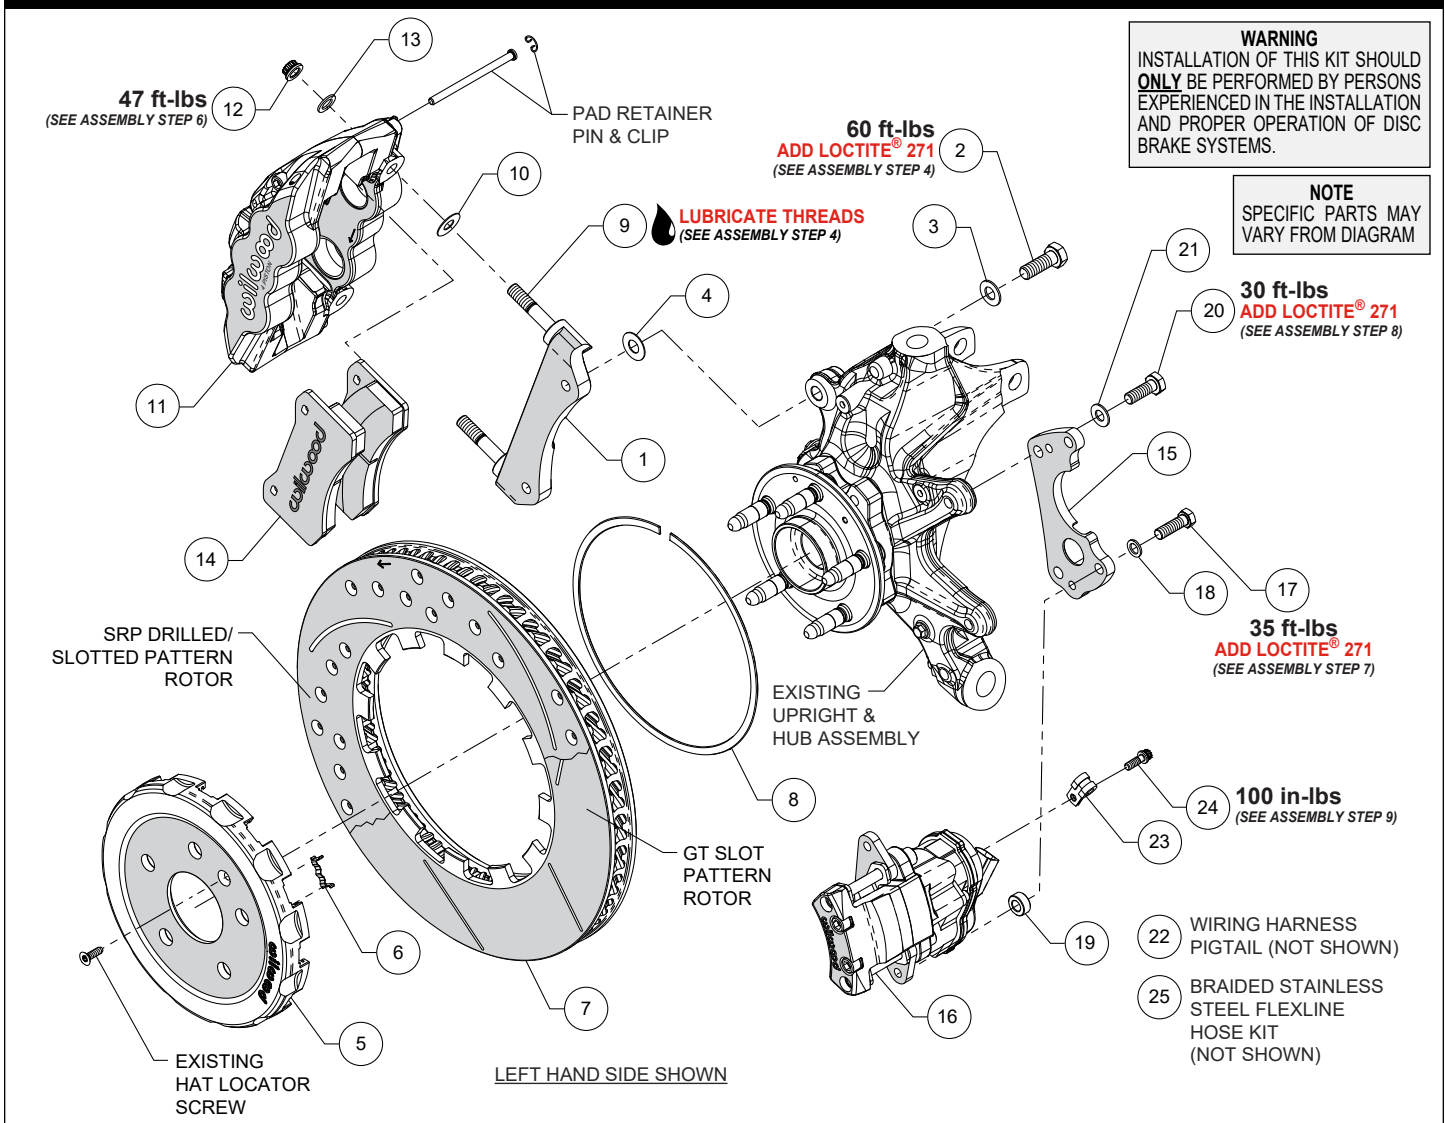

Figure 1. Typical Installation Configuration
NOTE: Numbers in parenthesis refer to the parts list and Figure 1 on the preceding pages.
STEP 1 The caliper mount bracket (1) should initially be installed with clean, dry threads on the mounting bolts. Orient the bracket, as shown in Figure 1 and Photo 1, and install using bolts (2) and washers (3). Initially place one .033" thick shim (4) on each bolt between the bracket and upright, Figure 1. Temporarily tighten the mounting bolts. **NOTE:** *The bracket must fit squarely against the mount bosses on the upright.* Inspect for interference from casting irregularities, machining ridges, burrs, etc. Later, after the caliper alignment has been checked, the mount bolts will be secured using red *Loctite*® 271.
STEP 2 Insert the dynamic mount wear clips (6) into the slots in the hat (5), Photo 2 and 3. Orient the rotor (7) as shown in Figure 1 and Photo 4, with the flush side of mount lugs facing the hat. Secure the rotor to the hat using the snap ring (8) by simultaneously pushing down on the rotor and installing the ring into the groove in the hat, as shown in Photo 5. Carefully inspect snap ring to ensure complete engagement in the groove.
STEP 3 Slide the hat/rotor assembly onto the axle hub, Photo 6. **NOTE:** *The hat must fit flush against the axle hub flange or excessive rotor run out may result.* Install the hat locator screw (OEM), as shown in Figure 1, to keep the hat/rotor assembly in place while continuing with the installation.
STEP 4 **NOTE:** *This kit contains distinct right and left hand calipers that must be mounted in a specific direction, as described below.* Lubricate the caliper mounting studs (9) with lightweight oil. Initially place one .030" thick shim (10) on each stud between the caliper and the bracket, as shown in Figure 1 and Photo 7. Mount the caliper (11) onto the bracket (1) using lock nuts (12)
and washers (13), Figure 1. Temporarily tighten the lock nuts. Ensure that the caliper is mounted so the largest pistons are at the rotor exit end of the caliper, in relation to the forward direction of the rotor. View the rotor through the top opening of the caliper. The rotor should be centered in the caliper, Photo 8. If not, adjust by adding or subtracting shims (4) between the bracket and the upright. Always use the same amount of shims on each of the two mounting bolts. Once the caliper alignment is correct, remove the bracket mounting bolts (2) one at a time, apply red *Loctite*® 271 to the threads, and torque to value shown in Figure 1.
STEP 5 Remove the caliper (11) from the bracket (1), then remove the clips and pad retaining pins from the caliper. Insert the brake pads (14) into the caliper from the bottom side, with the friction material facing the rotor, as shown in Photo 9. Secure the brake
pads in place with the pad retaining pins and clips, Figure 1 and Photo 10.
STEP 6 Reinstall the caliper onto the caliper mounting bracket and temporarily tighten the lock nuts (12). Check that the top of the brake pad is flush with the outside diameter of the rotor, Photo 11. If not, adjust by adding or subtracting shims (10) between the caliper and the bracket. After the caliper pad height is set, torque the caliper lock nuts (12) to value shown in Figure 1.
STEP 7 Attach EPB caliper mounting bracket (15) to EPB caliper (16) using bolts (17), washers (18), and spacers (19) as shown in Figure 1 and Photo 12. Apply red *Loctite*® 271 to the bolt threads, and torque to value shown in Figure 1.
STEP 8 Mount the EPB caliper assembly (15 and 16) to the mounting bosses of OEM upright using bolts (20) and washers (21) as shown in Figure 1 and Photo 13. **NOTE:** *The bracket must fit squarely against the mount bosses on the upright.* Inspect for interference from casting irregularities, machining ridges, burrs, etc. Apply red *Loctite*® 271 to the bolt threads, and torque to value shown in Figure 1.
STEP 9 Connect OEM electronic parking brake wire harness to Wilwood electronic parking brake using included wiring pigtail harness (22), Photo 14. Secure wiring pigtail harness to unused threaded hole on EPB housing using clamp (23) and bolt (24), Photo 14. Torque bolt to value shown in Figure 1. Carefully bend clamp over as shown in Photo 14 to provide maximum wheel clearance. **Ensure wiring is routed to prevent contact with moving suspension, brake or wheel components.**
STEP 11 Attach supplied brake line to caliper. **NOTE:** *OEM rubber brake hoses generally cannot be adapted to Wilwood calipers.* Install Wilwood's stainless steel braided flexline hose kit (25), P/N 220-17008 included with this kit. The caliper inlet fitting is a 1/8-27 NPT. Use the included steel adapter fitting at the caliper (use PTFE tape on the pipe threads of adapter fitting for proper sealing to caliper). Route line as shown in Photo 15. Reuse existing OEM brake line bracket bolt and mounting location to secure Wilwood flexline bracket, Photo 15 (arrow).